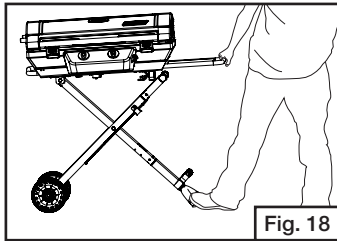

Fig. 18
- Continue to pull the fixed side table toward you until stand is fully extended. (Fig. 18)